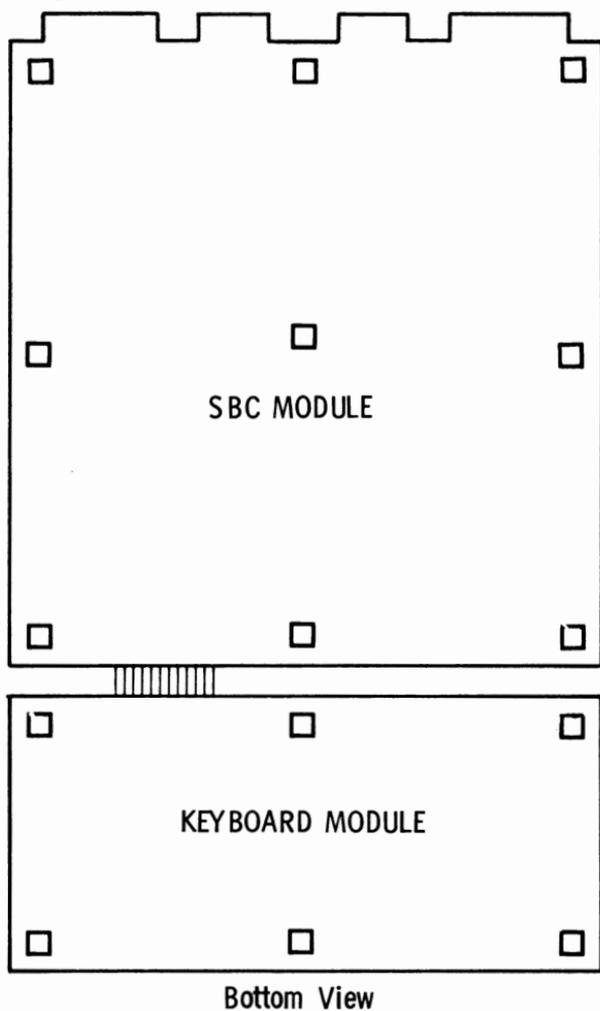

Figure 2-1. Supporting Feet Installation
- (1) Attach the supporting rubber feet on the bottom of the SBC and keyboard modules if the AIM 65/40 is to be operated on a flat surface, e.g. a table or desk top rather than installed in an enclosure. Remove the protective film from pad's sticky surface before attaching it lightly to one of the approximate locations shown in Figure 2-1.
- (2) After all pads are attached, set the modules down on a flat surface and press down firmly over each foot to permanently affix it to the module.